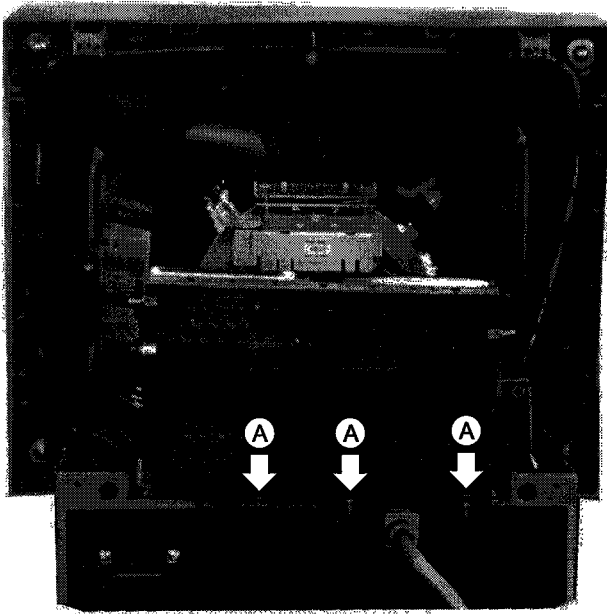

Figure 2-4 Internal Disassembly (Right Side)
1. Remove the three ground wires from the neck shield. Refer to the figure 2-4 (A).